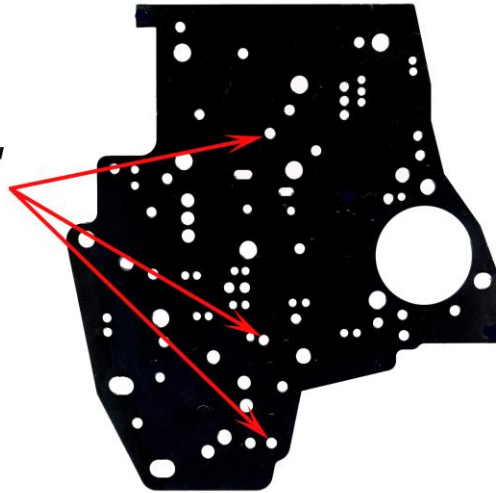

Figure 2: if transmission is in vehicle
5. If the transmission has been removed from the vehicle then install (3) new check balls included in the kit into the transmission case. If the transmission is still in the vehicle then install the (3) new check balls included in the kit on top of the new upper valve body gasket and new separator plate. Use some TransJel® assembly lubricant or petroleum jelly to hold the check balls in place if necessary (*see figure 2*). **DO NOT** install any other check balls into transmission other than the (3) new check balls included in the kit.
(Figure 2)